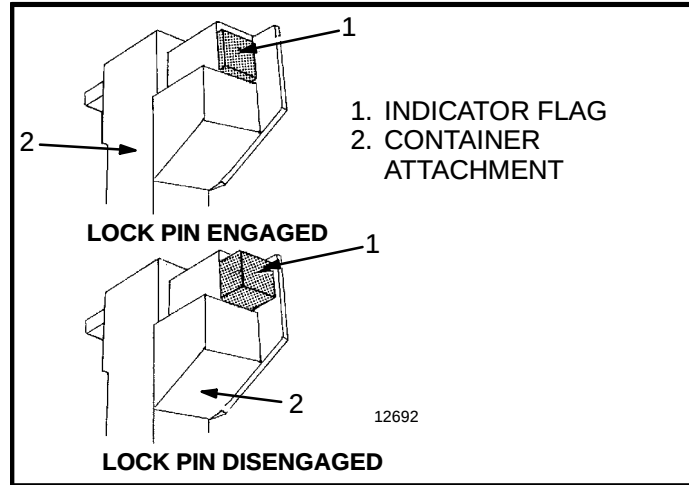

FIGURE 7. INDICATOR FLAG
sure the indicator flags for the lock pins are in the engaged position. See FIGURE 7.
5. Push on the rear of the lock pin switch to retract the lock pins. Make sure the green lights are off. Also check that the indicator flags are in the disengaged position. See FIGURE 7.